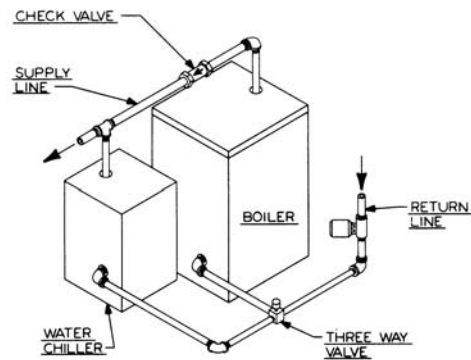

Figure 3.5: Isolating Boiler from Chilled Medium on Chiller Systems
6. If the boiler is to be used in conjunction with a refrigeration system, the chilled medium shall be piped in parallel with boiler and proper valves applied to prevent the chilled medium from entering the boiler. Refer to Figure 3.5.